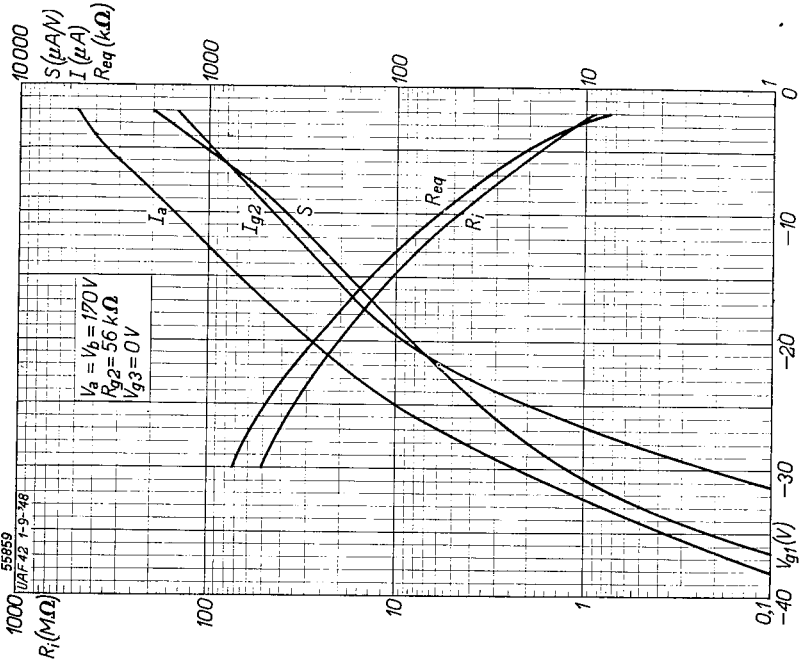
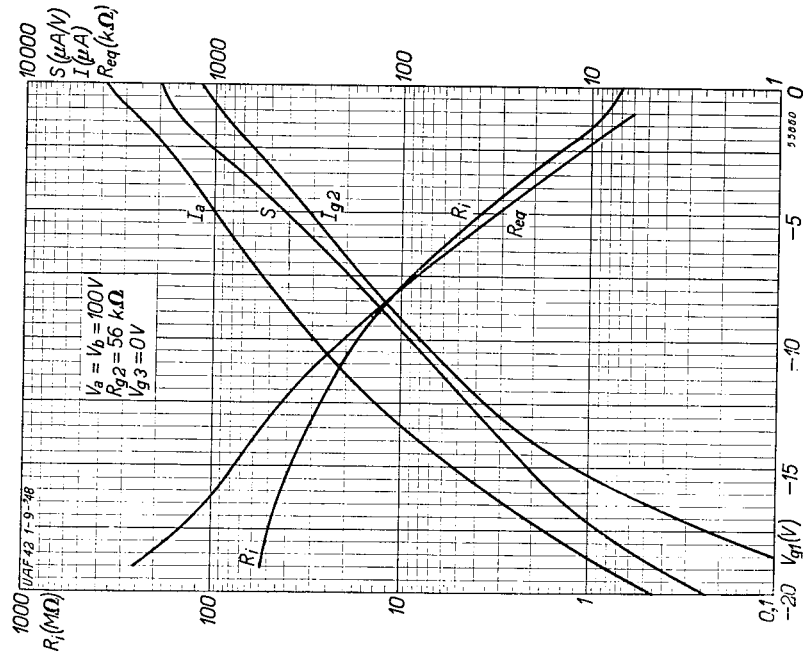

Fig. 11
Fig. 10
Anode current (I_a), screen grid current (I_{g2}), mutual conductance (S), internal resistance (R_i) and equivalent noise resistance (R_{eq}) of the pentode section of the UAF 42, as functions of the grid bias (V_{g1}); screen grid resistor $R_{g2} = 56 k\Omega$, anode and supply voltage = 100 V (Fig. 10) and 170 V (Fig. 11).
As Figs. 10 and 11, but with the screen grid voltage of the UAF 42 obtained by means of the same potentiometer as that of the frequency changer UCH 41.
As Figs. 10 and 11, but with the screen grid feeds of the UAF 42 and UCH 42 taken from a common potentiometer.